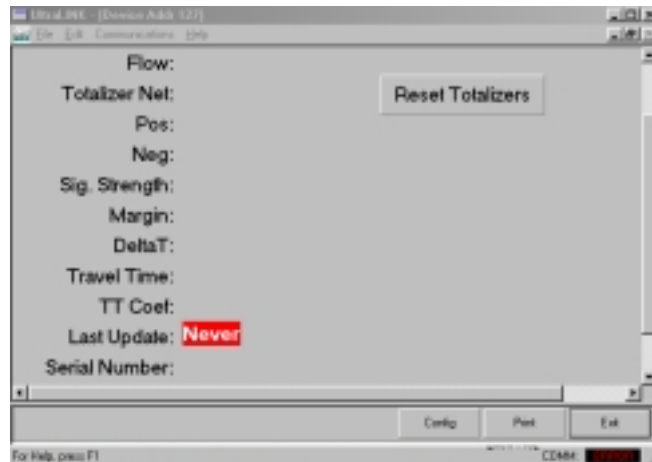

Figure 4.2
3. The first screen is the “RUN-mode” screen, See **Figure 4.2**, which contains real-time information regarding flow rate, totalizer accumulation, system signal strength, diagnostic data and the flow meter’s serial number. The indicator in the lower right-hand corner will indicate communications status. If a red **ERROR** is indicated, click on the Communications button on the top bar. Click on Initialize. Choose the appropriate COM port and interface type. Proper communications are established when a green **OK** is indicated in the lower right-hand corner of the PC display.